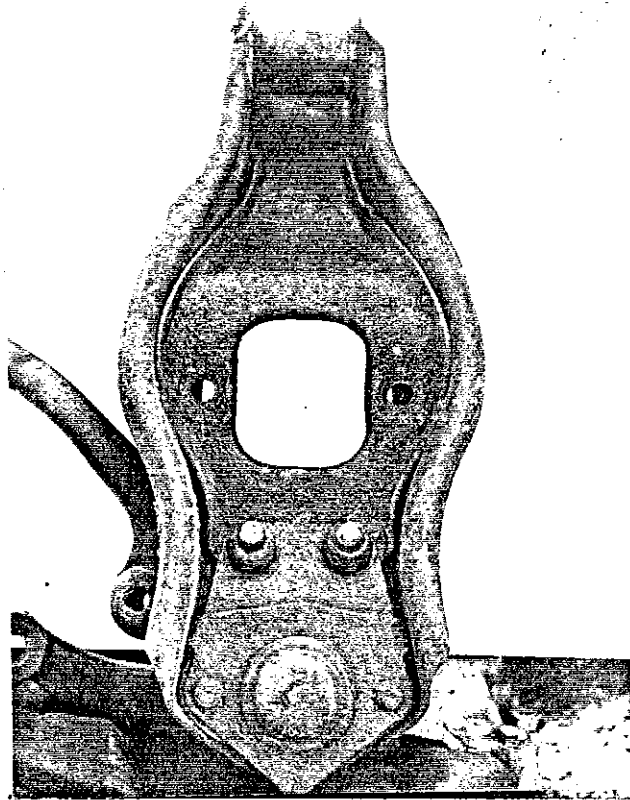
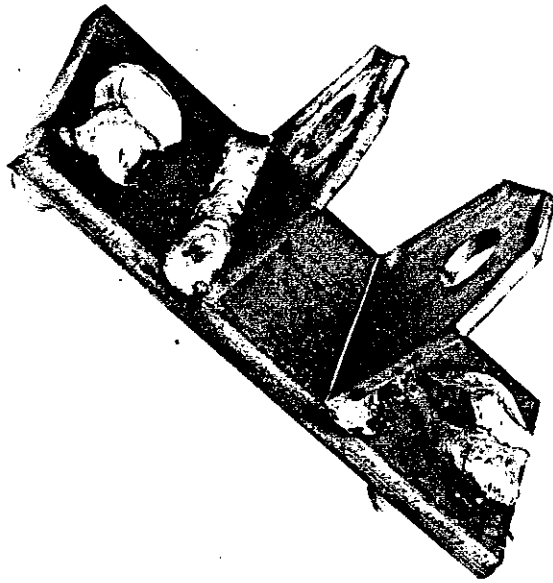

Fig 4. The lower front suspension arm with the spring locating pan removed, and the holes opened out to the correct size ready for the new bracket.
Fig 5 The new bracket for the lower coilover/damper mounting. It bolts to the lower suspension arm in place of the original spring pan.
The lower spring pans need to be modified in order to take the new coil/damper units. Remove the spring seating cups from the lower pans as shown in Fig 4. Using 3/8 UNF bolts, washers and Nyloc nuts fit the new lower spring/damper brackets, Fig 5, in place of the cups.
Fit the new coilover dampers (H). Use new bolts as previously described in chapter headed: 'MODIFICATIONS NECESSARY TO THE DONOR CAR PARTS'. The upper mounting bolt is at (B) and the lower mounting is shown in Fig 11 overleaf and Figs 4 & 5.